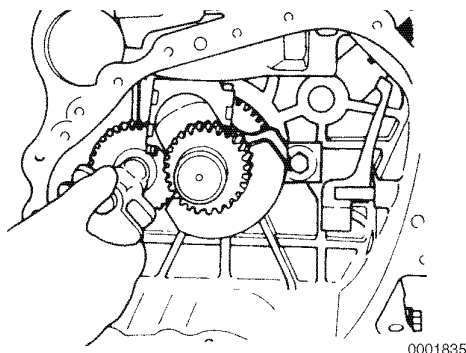

Figure 8-41
7. Remove the balancer (**Figure 8-41**) shaft by pulling it up and out of the crankcase, rotating as necessary for clearance. As with the camshaft, note the alignment marks where the balancer shaft gear meshes with the crankshaft gear.